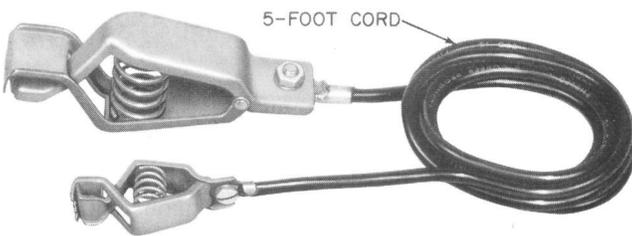
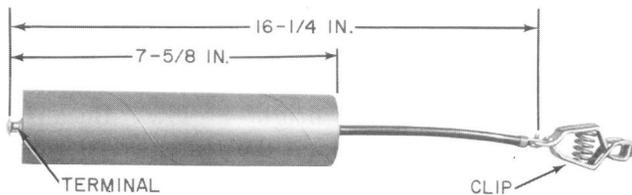

Fig. 2—B-Temporary Bond
Fig. 3—B-Shunting Capacitor
2.03 Canvas Bag: The canvas bag has been provided to carry and store the B-Voltage Tester, B-Temporary Bond (Fig. 2), B-Shunting Capacitor (Fig. 3), and a test date card.
2.05 Shunting Capacitor: The B-Shunting Capacitor (Fig. 3) is used to distinguish dangerously energized equipment from weakly energized equipment which is not dangerous. This is necessary in some localities to avoid unjustified investigations by the responsible electric utility.
2.10 B-Temporary Bond: The B-Temporary Bond (Fig. 2) is used to temporarily ground a light fixture, metallic conduit, power company hardware power ground wire, or other metallic objects in the telephone company work space which could become energized if a fault developed. The B-Temporary Bond is placed on such attachments only after the metallic object has first been tested with the B-Voltage Tester and found to be free of a voltage potential. When placed, the bond is first attached (small clamp) to a reliable ground source and then to the metallic object. When the